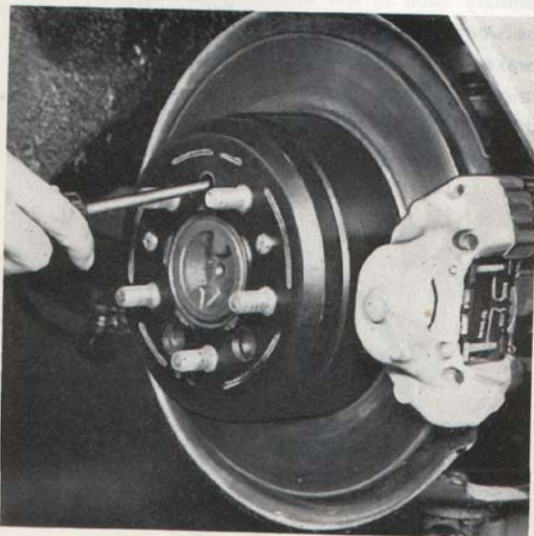

Fig. 5—14. Adjusting the handbrake, rear wheel
4. Set the drum so that its hole coincides with the serrations on the adjusting screw and apply the shoes by moving the screwdriver handle upwards, see Fig. 5—14. When the drum can be rotated easily, discontinue applying the shoes. Then turn the adjusting screw back 4—5 serrations. Check that the shoes do not "drag" by rotating the drum in its normal direction of rotation. Very little dragging may be permitted. If, however, the dragging is more pronounced, the adjusting screw should be released a further 2—3 serrations. Connect the cable to the lever and remove the holder SVO 2742.